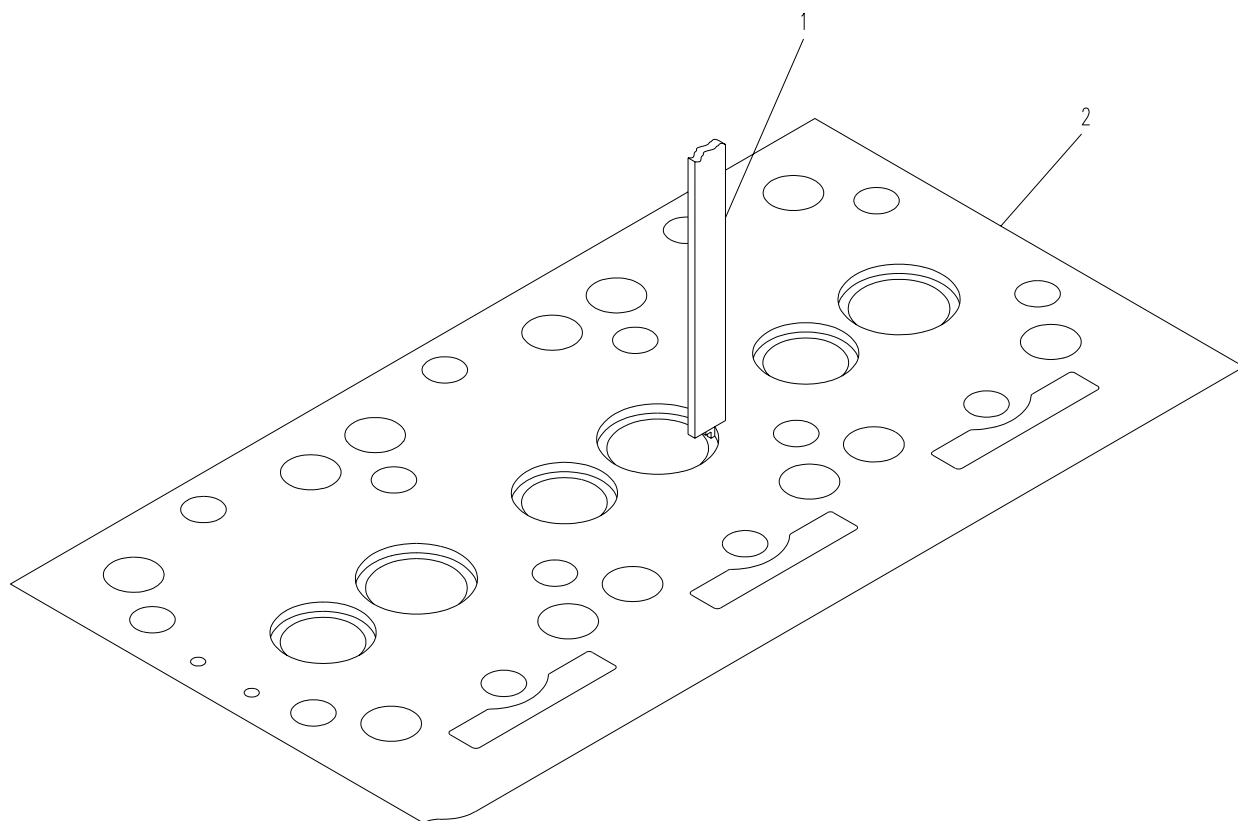

Figure 6-2. Cylinder Head (Sheet 2)
Refer to Figure 6-2 (Sheet 3) and observe sequence of cylinder head bolts removal to ensure proper installation.
- a. Refer to Figure 6-2 (sheets 3 and 4) and remove 14 bolts (2, sheet 4) securing cylinder head (1) to engine block in the following order (sheet 3): 10, 14, 13 through 11, 9 through 1. Retain hardware.
- c. Remove head gasket (3, sheet 4) from cylinder head (1). Ensure there is no debris on engine block. Clean cylinder head thoroughly if required.